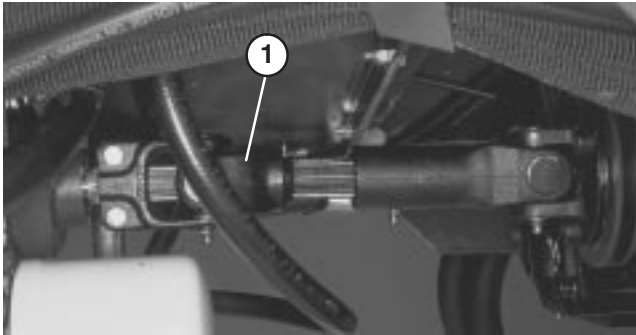

Figure 27
TOWING TRACTION UNIT (Fig. 27 & 28)
1. Loosen and remove capscrews securing the drive shaft to the engine drive coupler. Loosen capscrews clamping drive shaft to transmission (Fig. 27). Remove drive shaft.
5. When towing is completed, reinstall driveshaft as shown in figure 27. The splines are designed to allow assembly only when the two halves of the shaft are properly oriented.